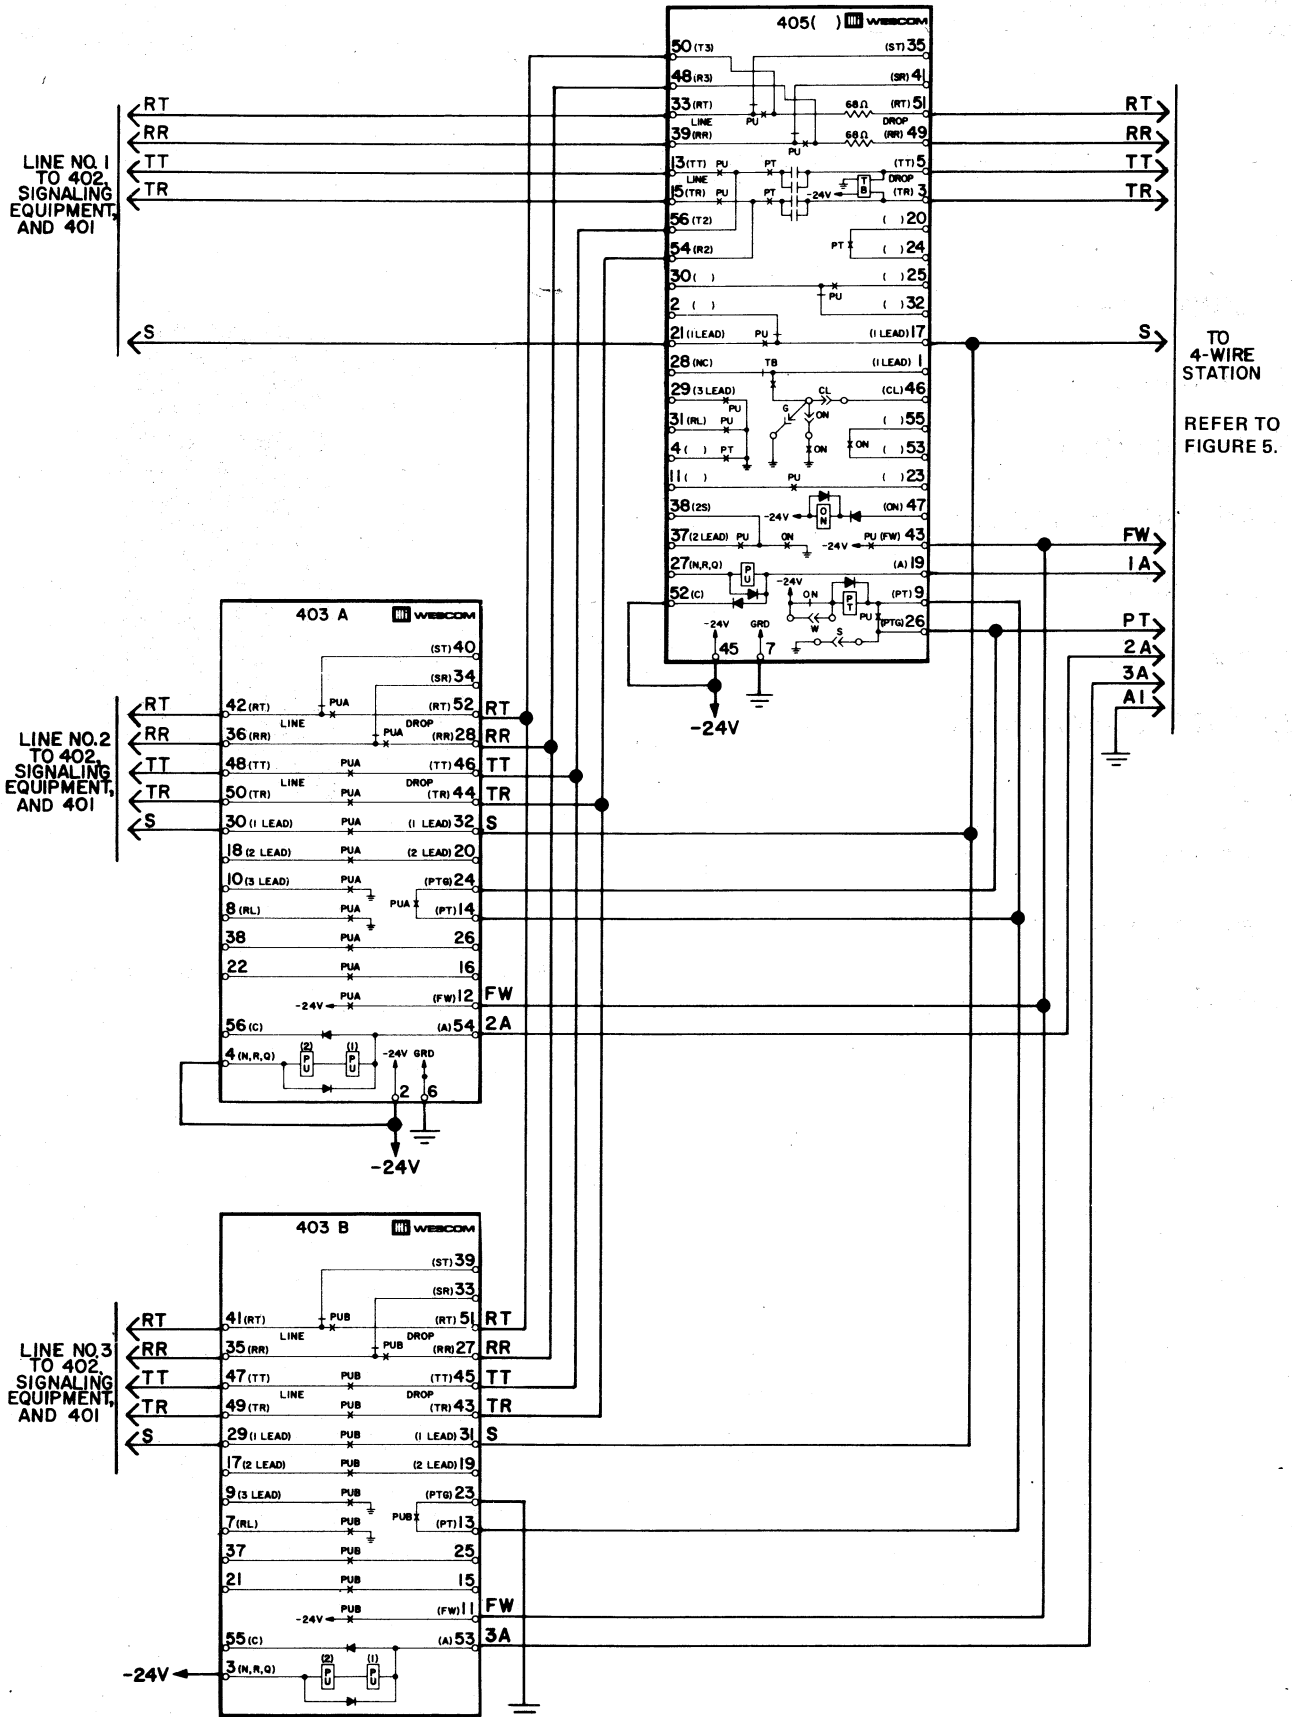

Figure 2. Station Access to Three Lines Using One 405 and One 403
2.01 The 405 provides a pickup relay circuit and a 4-wire station circuit. It is always used at the station end of a circuit in conjunction with a 4-wire private line telephone or a 2-wire/4-wire key telephone set similar to the Wescom 8640 Telephone Set or the Wescom 8642 Telephone Set, respectively. The 405 is normally used with a Wescom 401 4-Wire Line Amplifier and a Wescom 402 4-Wire Line Termination Circuit and any associated signaling equipment (VF, SS-1A, ringdown, etc.). Typical applications of the 405 are shown in Figures 2, 3, and 4.
2.02 In Figure 2, the 405 is shown connected to a subscriber station. This allows the set access to one 4-wire circuit. The addition of a Wescom 403 Dual Pickup Relay allows the set access to two additional circuits. Each of these three circuits, illustrated in Figure 2, is also terminated in a 402, signaling equipment, and the 401. (This equipment is not shown due to space limitations.) Each circuit would then be connected to a facility (wire line/metallic or carrier multiplex) for transmission to other locations.
2.04 In Figure 4, two handsets are connected to two 405's and then connected to a Wescom 4760 Dual Station Control. This configuration allows the two handsets access to one SS-1A circuit. The use of the 4760 provides individual station lock-out for privacy operation. One or more 403 Dual Pickup Relays may be employed in this application, using the techniques shown in Figures 2 and 3. One pickup relay is required per station control.